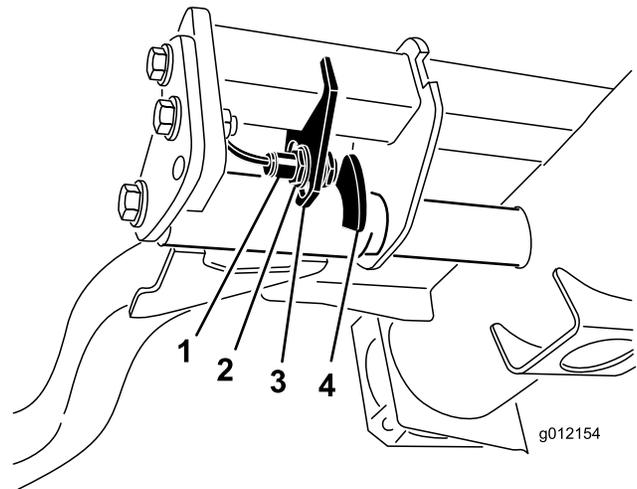

Figure 55
2. The lift-arm switch is located underneath the hydraulic tank behind the front, right lift arm (Figure 55).
3. Loosen the switch-mounting screws and move the switch down to increase the lift-arm turnaround height or move the switch up to decrease the lift arm turnaround height (Figure 55).